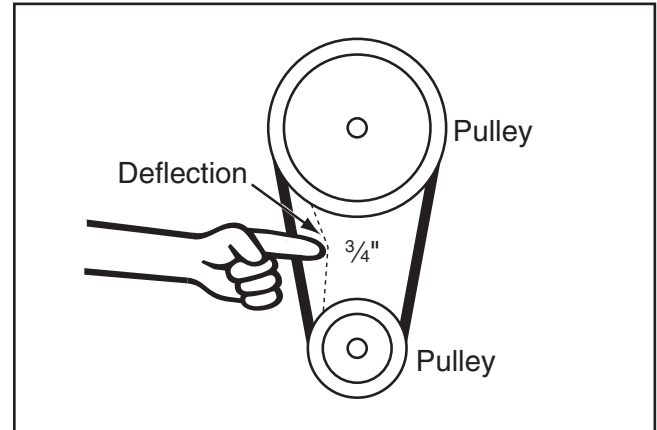

Figure 133. Checking V-belt deflection.
5. Check belt tension: Each belt is correctly tensioned when there is approximately $\frac{3}{4}$ " deflection when it is pushed with moderate pressure, as shown in **Figure 133**.